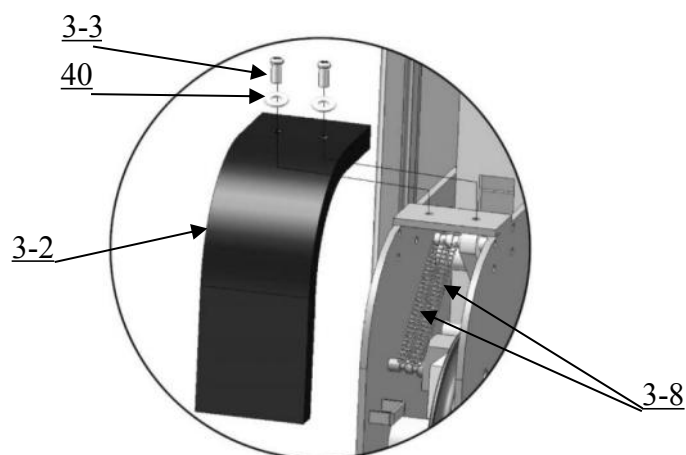

Fig. 48
P. Install spring and safety cover of cross beam (See Fig. 48).